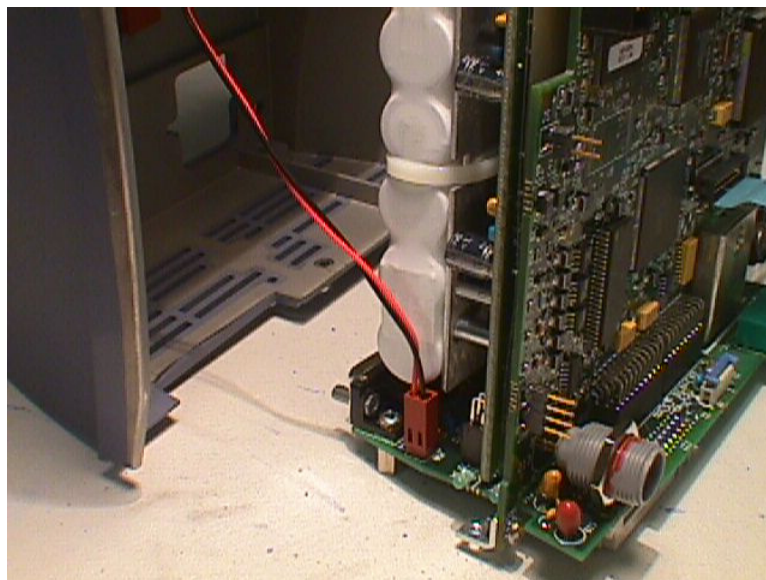

Figure 7-8 Fan Cable
4. Carefully stand case upright, being careful to not damage cable attaching fan (case mounted) to Interconnect PCB. (See Figure 7-8).
1. With the rear case sitting upright on its bottom surface, connect the fan cable to the J30 Interconnect PCB connector (next to the battery). (See Figure 7-8).